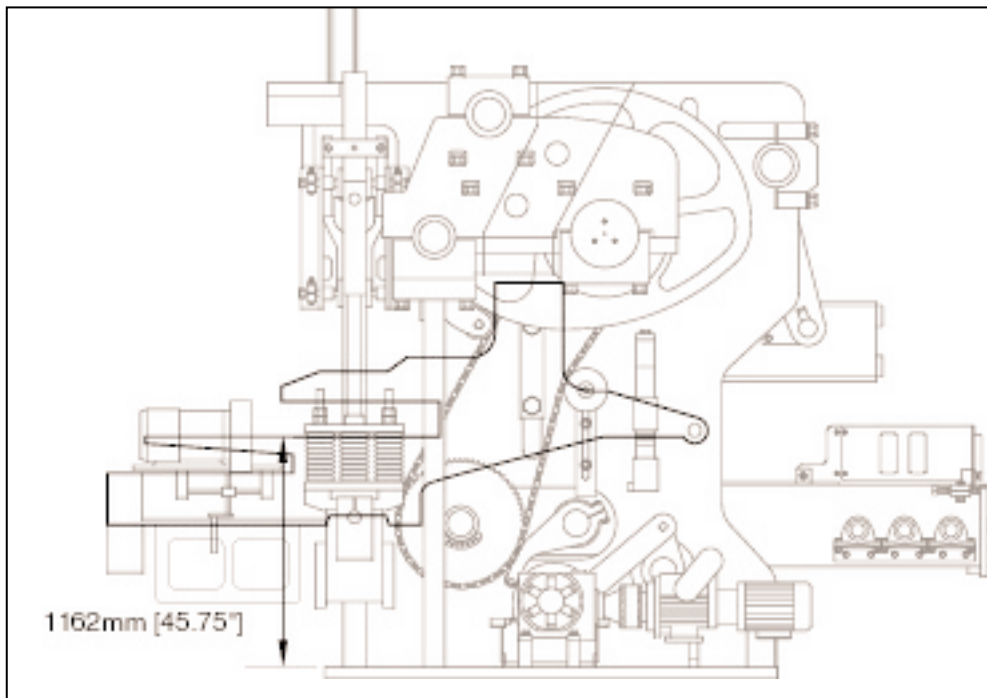

Figure 18.40 INNER FRAME ADJUSTMENT.
18.3.3 Adjust the inner frame so that the mold throat is **1162mm [45.75"]** above the top on the base plate (figure 18.40). **111mm [4.375"]** of spacers are required. To do so, follow these procedures: